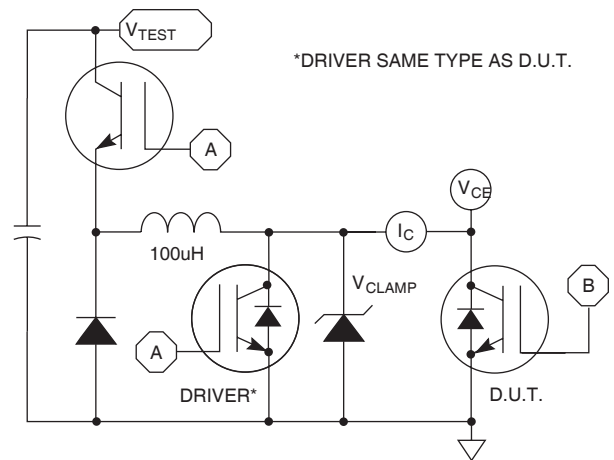

Figure 24, E_{ON1} Test Circuit
① Repetitive Rating: Pulse width limited by maximum junction temperature.
② For Combi devices, I_{ces} includes both IGBT and FRED leakages
③ See MIL-STD-750 Method 3471.
④ E_{on1} is the clam ped inductive turn-on-energy of the IGBT only, without the effect of a commutating diode reverse recovery current adding to the IGBT turn-on loss. (See Figure 24.)